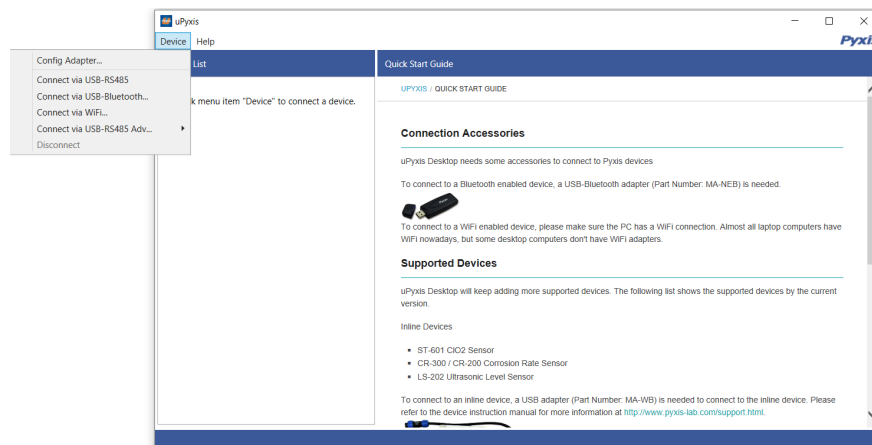

Figure 12.
3. On **uPyxis®** Desktop App, click Device→ **Connect via USB-Bluetooth** or **Connect via USB-RS485** (Figure 12).
4. If the connection is successful, the ST-565 Series and its Serial Number (SN) will be displayed in the left pane of the **uPyxis®** window.